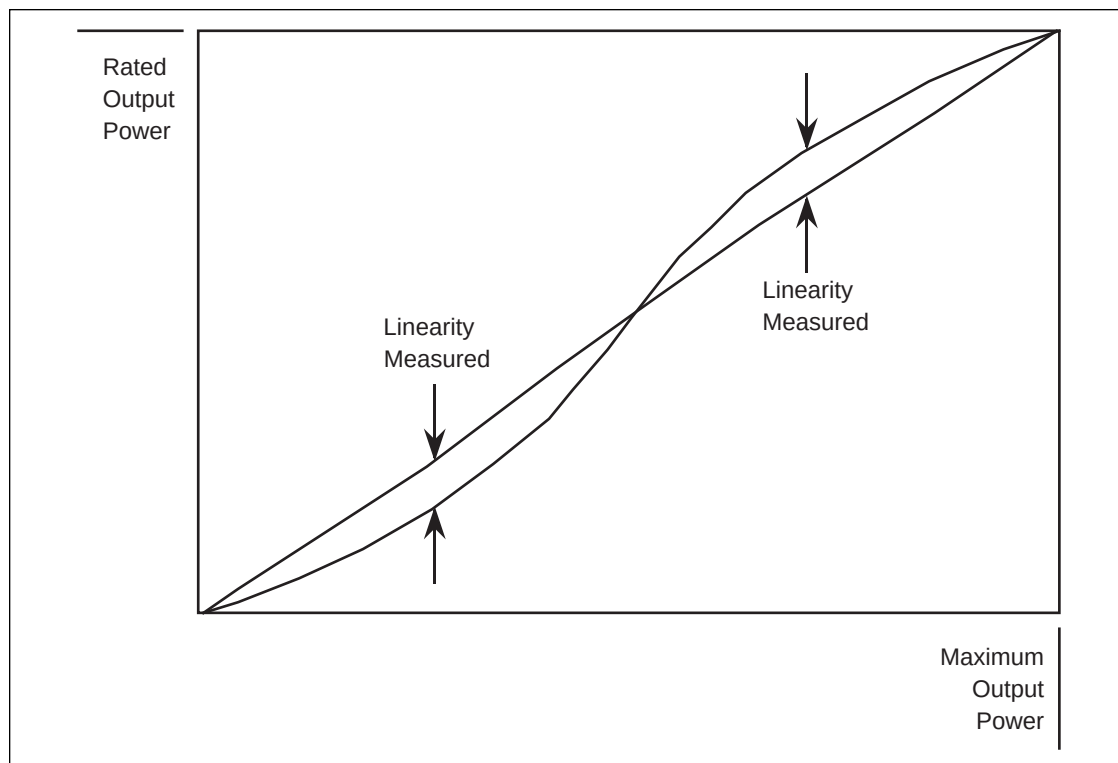

Figure 5-2. Gain Linearity.
11. Evaluate gain linearity results by noting deviation of data from a straight line output vs. input power curve, as shown in Figure 5-2.